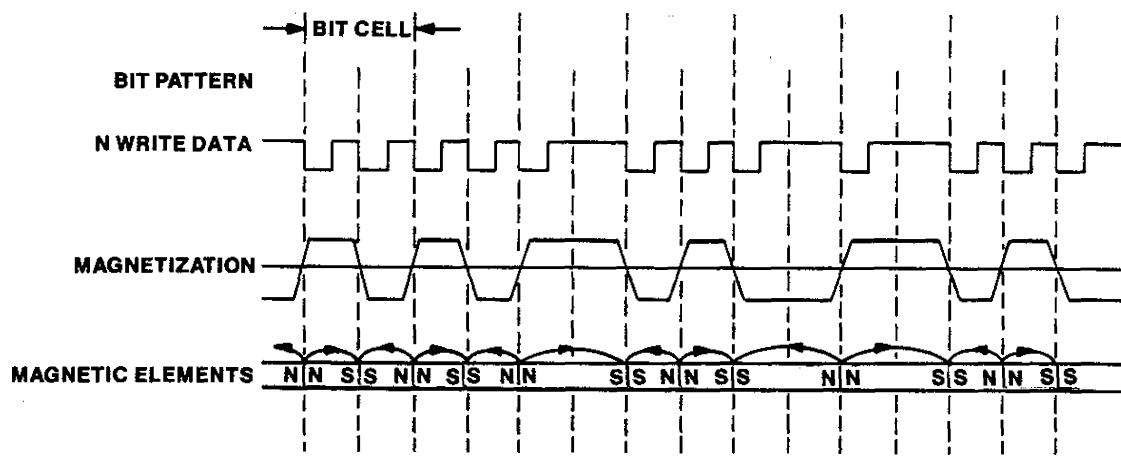

FIGURE 4-2
Information can be recorded on the diskette by using a double-frequency code. The magnetization profiles in each bit cell for the number sequence shown for frequency modulation (FM) recording are shown in Figure 4-2.